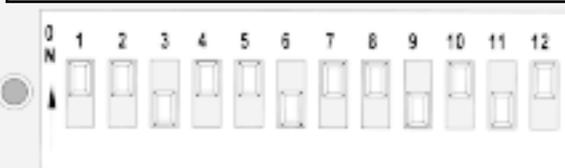

Figure 1
The **CRUISE MODULE** must be programmed for the vehicle on which it is installed. The **twelve (12)** programming switches must be set according to the chart below in order for the WorldCruise to operate properly. **Figure 1**
Figure 1 represents the **twelve (12)** programming switches for a vehicle characterized by: